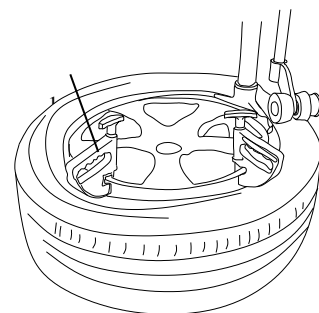

Fig 12
2. Make tyre top bead upon rear of demounting/mounting head and below front of emounting/mounting head, move right pressing arm and make sure it is locked, pull handle D down to make roller C,G to press top bead to position below demounting/mounting head. Lock pressing block 1 on rim edge, rotate turntable, finish tyre mounting . Fig 12